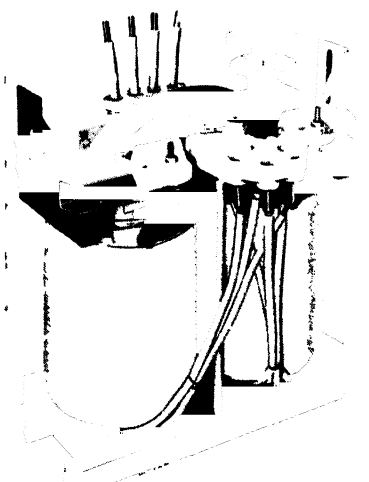

FIG. 1-61. Wound-core type of distribution transformer. (Courtesy Line Material Co.)
*Wound-core Type.* In this type, the core is made of a ribbon of sheet steel wound in a spiral. After the core is wound and annealed, the coils are wound on the two core sides. In the smaller sizes, this type may supersede all other core types eventually. See Fig. 1-61.